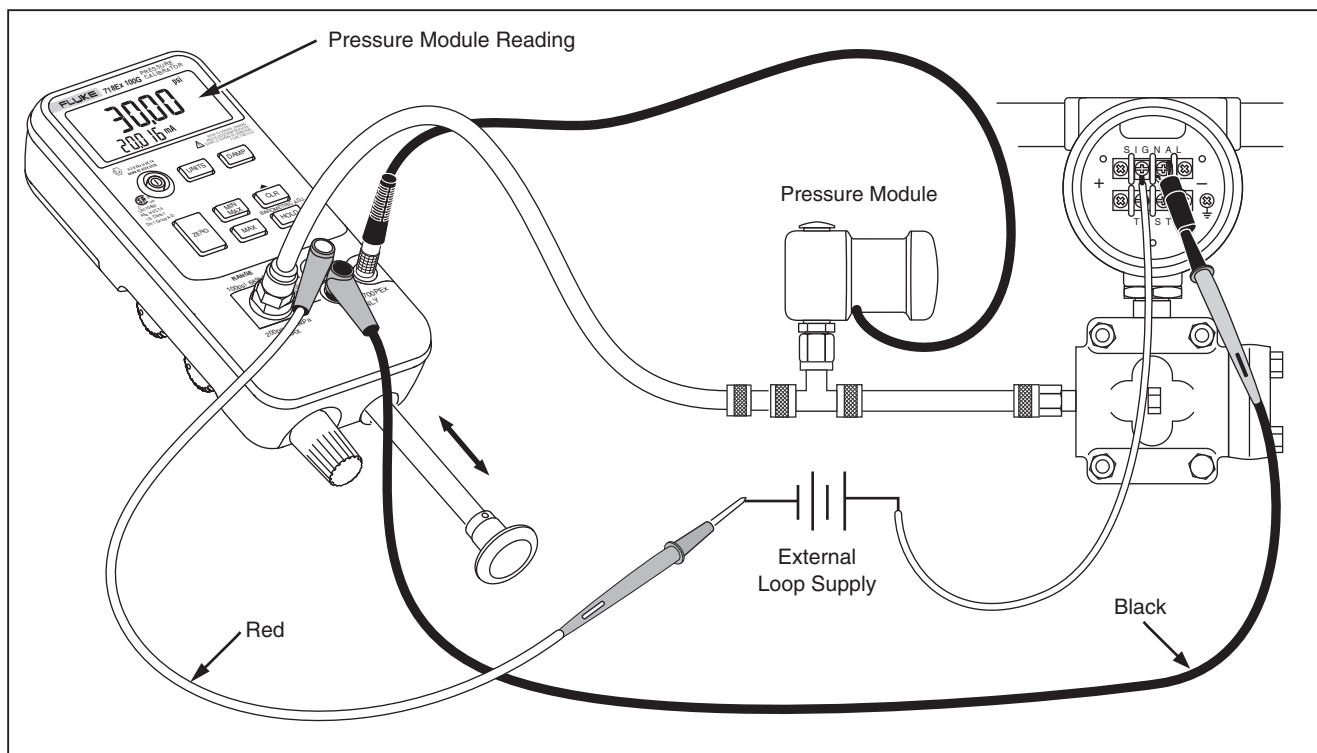

Figure 5. Pressure Module with Internal Pump
The internal pump can also be used with certain Fluke 700PEX Series Pressure Modules. In this case, pressure measured by the pressure module is displayed by the Calibrator. Appropriate pressure modules for each Calibrator model are identified in Table 4. Figure 5 shows the internal pump being used with a pressure module.
2. Connect the pressure transmitter under test to the Calibrator internal sensor as shown in Figure 4 (for internal pressure sensor measurements) or Figure 5 (for pressure module measurements.)